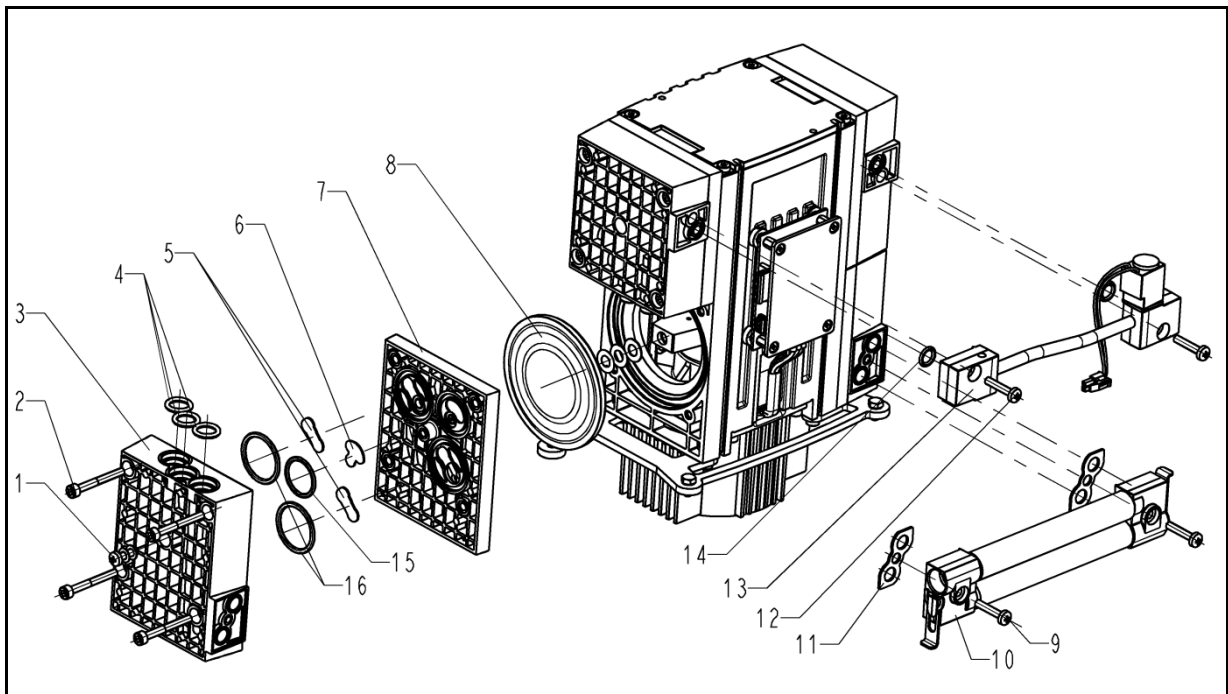

Fig. 19: Exploded drawing of SCC 950 pump
7. Undo the 16 attachments screws (Fig. 19/2) on the heads (1 to 4) and remove the heads (1 and 2 as well as 3 and 4).
3. Place heads 1 and 2 and heads 3 and 4 onto the compressor housing; alternately tighten attachment screws (Fig. 19/2) to hand-tightness (torque: 3.5 Nm)
Diaphragm and valve plates have been replaced.	➔ Make sure that the diaphragms have the correct shim rings. ➔ If necessary, carefully tighten the attachment screws (Fig. 19/2, p. 41) of the pump head alternately.